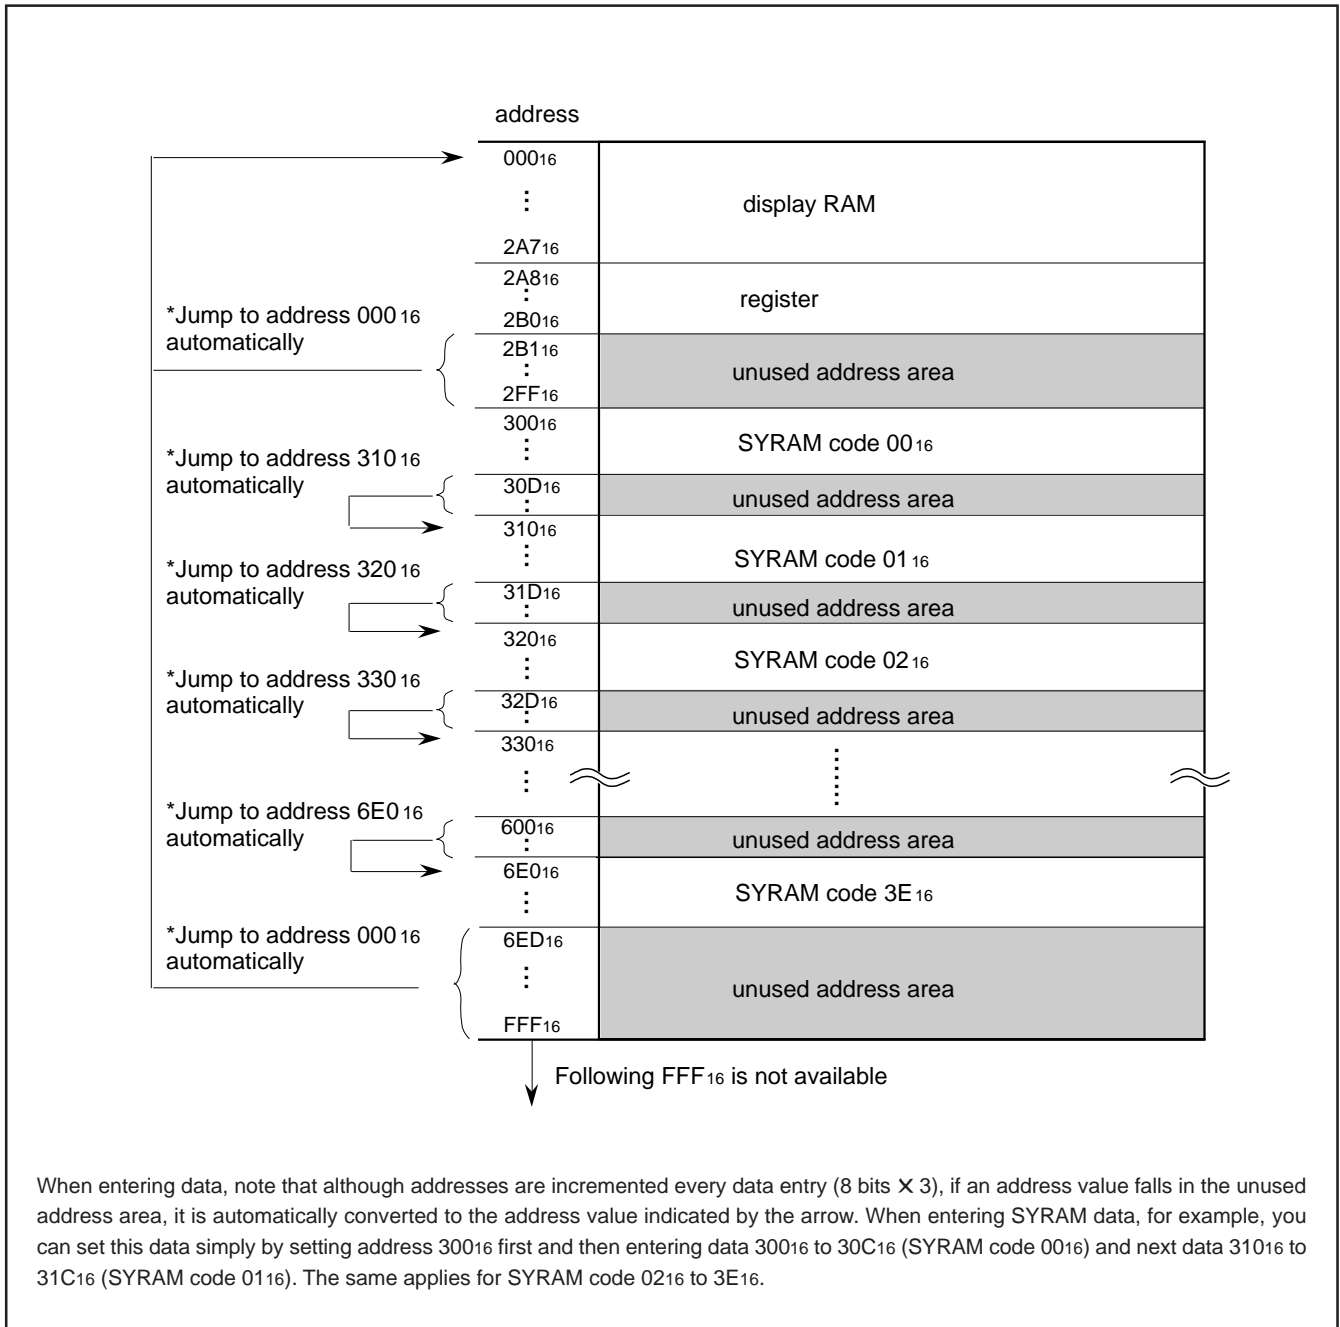

Fig. 12 Address construction
- (1) The address consists of 8 bits X 3.
- (2) The data consists of 8 bits X 3.
- (3) The 8 bits X 3 in the SCK after the  $\overline{CS}$  signal has fallen are the address, and for succeeding input data, the address is incremented every 24 bits (8 bits X 3). Refer to Fig.12 about detail for address increment.